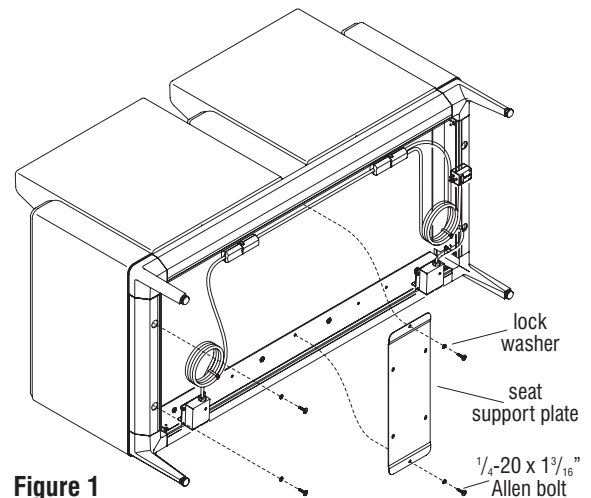

Figure 1
1. If the lounge unit is near a wall or other structure that would prevent adequate access to the arm or backrest, with the assistance of a second person, move the unit away from the structure, then carefully lay the lounge assembly onto its front, on a clean, protective surface (Figure 1).
seating unit frame. Set bolts, lock nuts and seat support plate aside to be reinstalled in a later step (Figure 1).